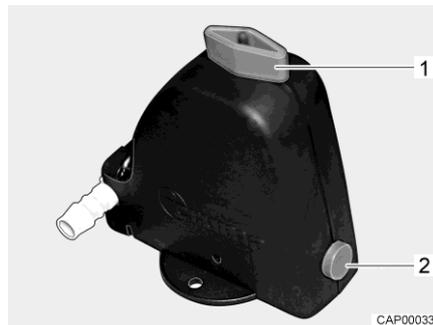

Fig. 258 Safety/drainage valve (Truma)
- Open the safety/drainage valve (Truma). To do this turn the knob (Fig. 258,1) parallel to the safety/drainage valve. The push button (Fig. 258,2) jumps out.